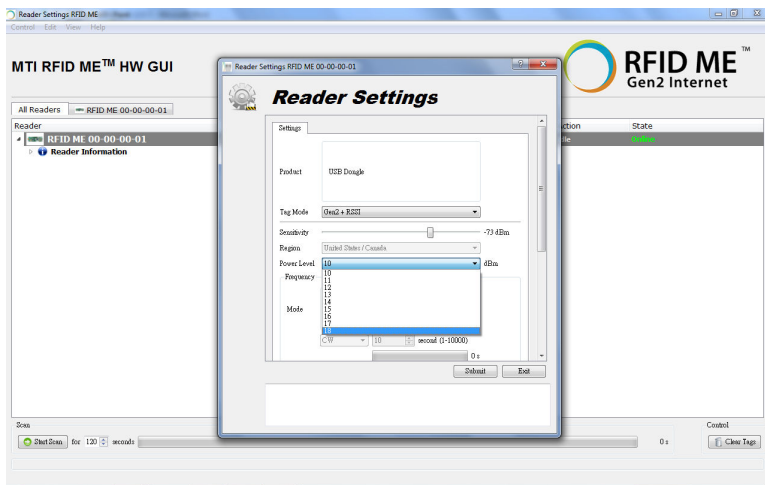

Figure 12
- To achieve the longest reading or writing range, please set the power to the highest level (18dBm) as shown in Figure 12.